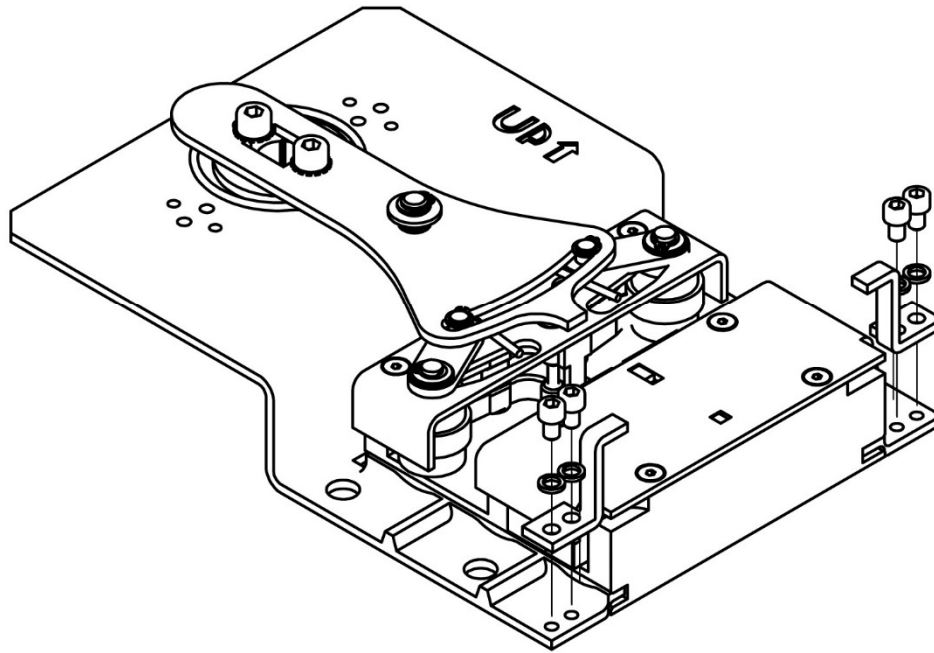

Figure5 Replacing the attachment block part and symmetrical block attachment
7. If the safety gear type has to be changed with the shoe, the fastener block must also be replaced for the corresponding type, which is marked with a letter identifying it. There are two symmetrical parts that are inserted as shown in Figure5. One part should be replaced first, followed by the other, so as not to leave the block loose. This part is to adjust the distance between the shoe and the guide rail centre. If they are not replaced, the distance between the guide rail centre and frame attachments will not correspond to those in the safety gear (DYN 32) usage and maintenance instructions.